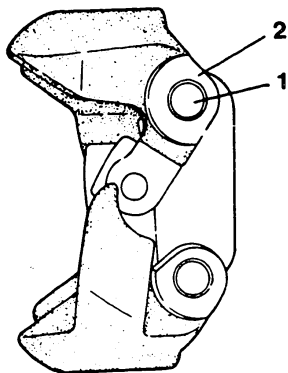

Fig. 105 Flyweight pin section
1. When the clearance between the flyweight pin and flyweight (or the flyweight bushing) is excessive due to wear, replace the flyweight assembly. (Fig. 105)